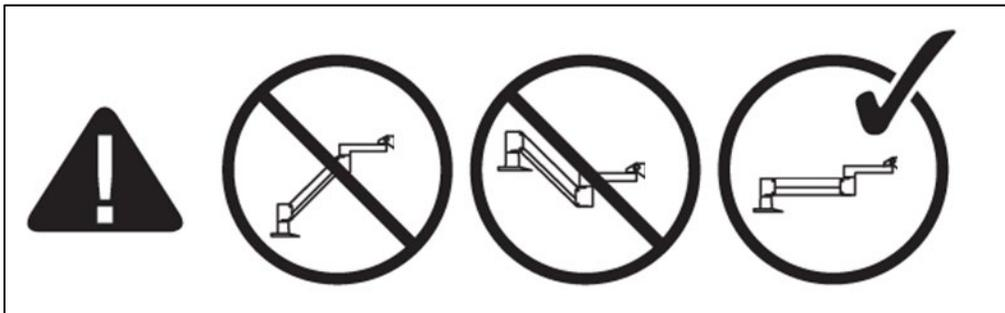

Figure 4-2. Position the Arm Parallel to the Floor
- If the arm **drifts upward**, turn the adjustment screw clockwise using a 7/32" Allen Wrench. See Figure 4-2.
- If the arm **drifts downward**, turn the adjustment screw counterclockwise using a 7/31" Allen Wrench. See Figure 4-2.